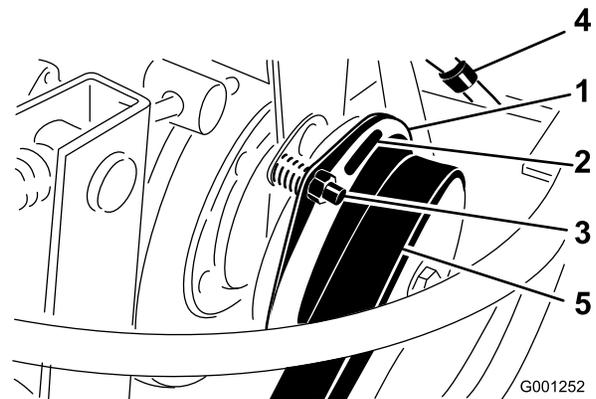

Figure 65
3. Adjust the air gap so that a 0.015 inch feeler gauge slides in between the clutch lining and friction plate with light pressure (Figure 65). The gap can be decreased by turning the adjusting nut clockwise (Figure 65). The maximum service gap is 0.030 inch. Adjust all three air gaps.